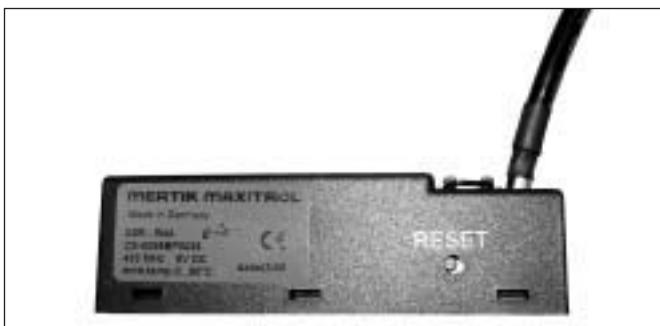

fig. 31
- Hold down the reset button on the receiver, until you hear two consecutive sound signals (see fig. 31).